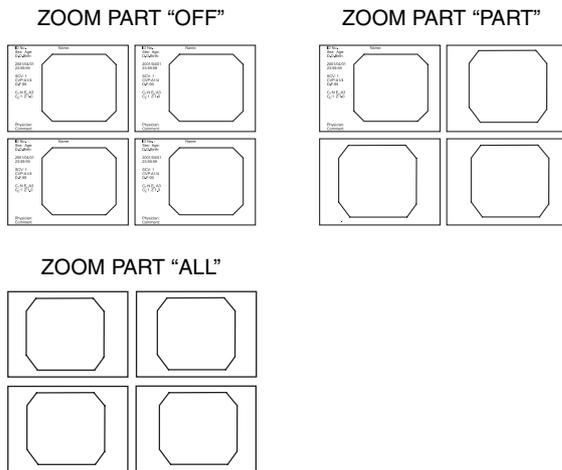

Figure 5.22
- 2 Press “▲” or “▼” to select from among “OFF,” “PART,” “ALL” and “REMOTE,” and press the “ENTER” button (see Figure 5.22).